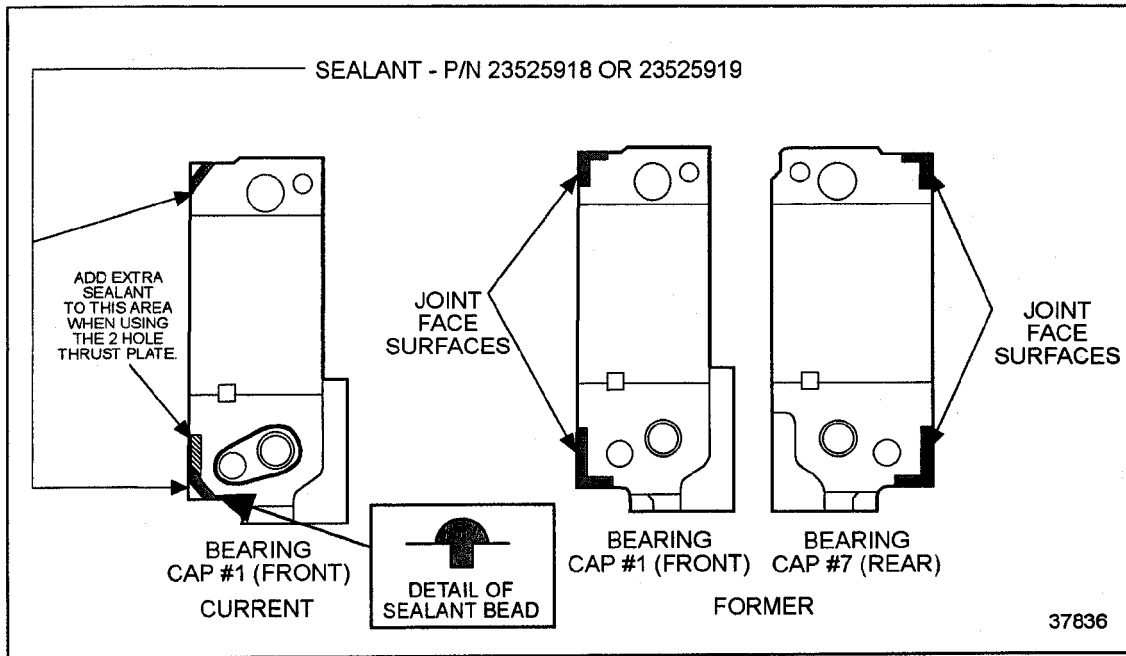

Figure 1-347 Gasket Eliminator Application
11. Apply a continuous 1.6 mm (1/16 in.) bead of DDC gasket eliminator part number 23523064, or equivalent, to the joint face surfaces of the No. 1 and 7 camshaft caps. The bead must extend to the front edge of both caps. See Figure 1-347.